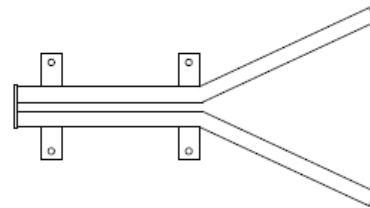

Figure 5: V guide bracket bent
1. Pry open V guide bracket (Appendix B #29) at cuts so tips extend towards pocket walls as shown in **Figure 5**.